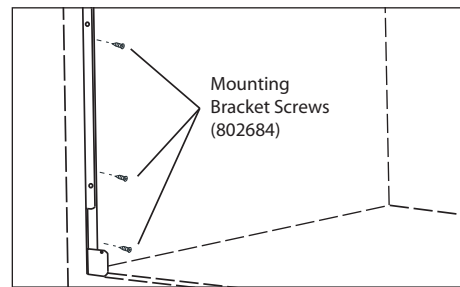

Figure 5
- A. Attach mounting brackets as shown in Fig. 5 with provided screws. Make sure brackets do not extend beyond the front surface of the cabinet. Always be sure to pre-drill pilot holes before installing screws to avoid damage to cabinet or trim kit hardware.